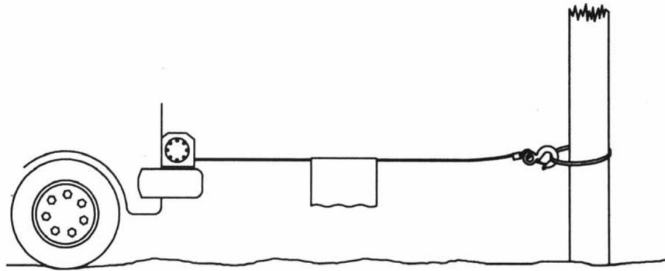

Figure 14
2. When pulling a load, place a blanket, jacket or tarpaulin over the wire rope near the hook end (see Fig 14). This will slow the snap back of a broken wire rope and help to prevent serious injury. Raise hood to protect windshield.